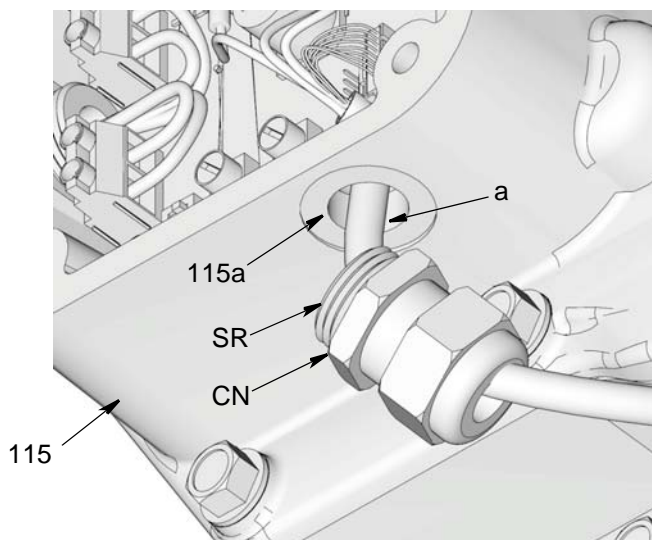

FIG. 60
4. Feed motor wire harness (a) through strain relief opening (115a) in housing (115) (FIG. 60).